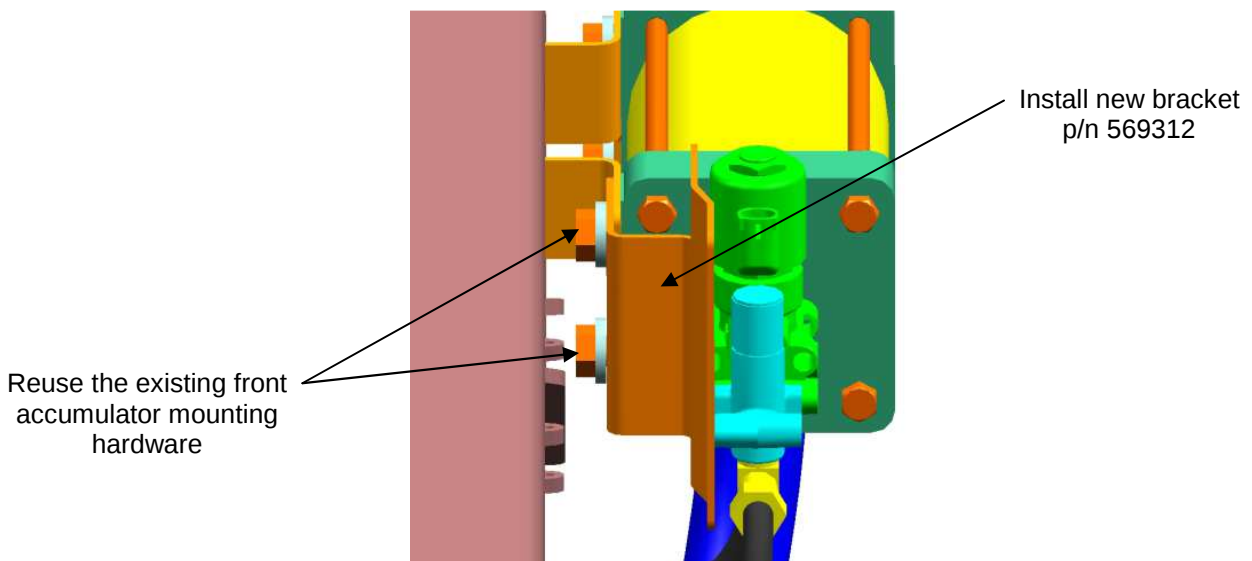

Figure 4: Accumulator Bracket Installation
14. Remove the existing front accumulator mounting hardware, See Figure 4. Install new bracket p/n 569312 and re-install removed hardware. Torque to 50 – 60 lb*lbs dry.